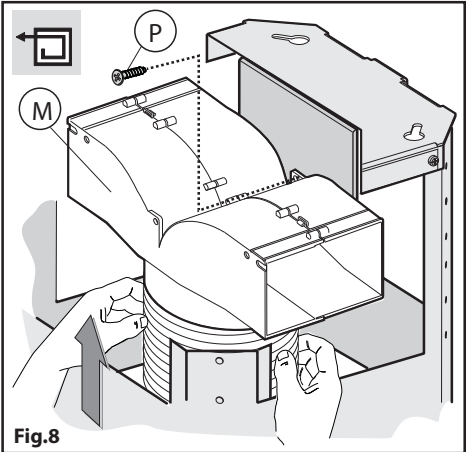
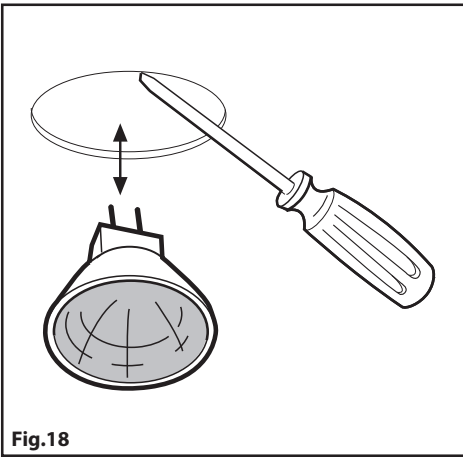
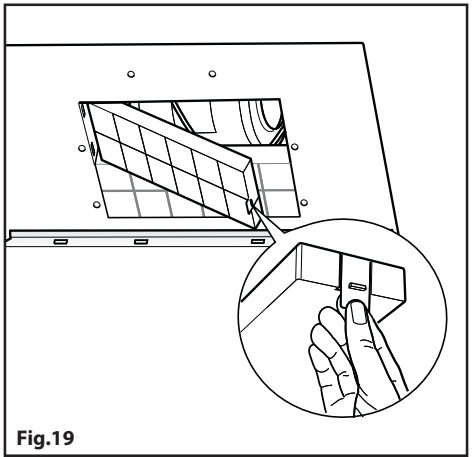

Fig.8
Fig.18
Fig.19
- **Filtering version:** We have two different types of Kit, one with extractable carbon filters (**Fig.18**) and the other one with re-usable carbon filters (washable). (**Fig.19**)
- Fix the flexible pipe to the deflector **M** and fix screw **I** as indicated in (**Fig.8**), the active carbon filters must be applied to the suction unit positioned inside the hood (**Fig.18**).